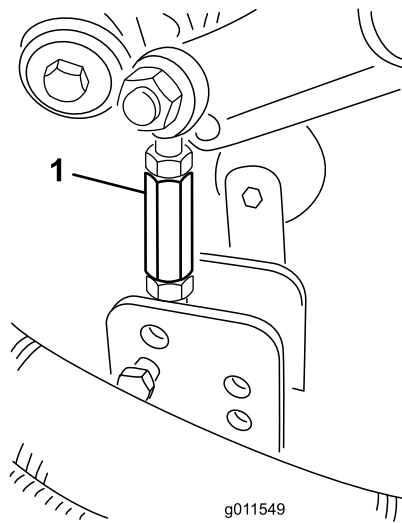

Figure 5
- Remove hairpin cotter and clevis pin securing height of cut link to height of cut bracket on deck (Figure 5).